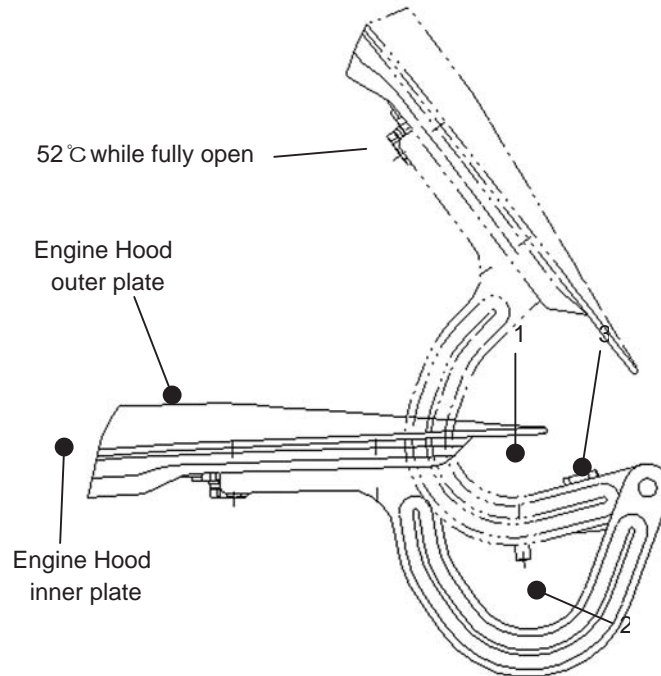

Figure 5-8 Engine Hood Hinge
1. Engine hood is mainly used to protect the engine, meet the whole vehicle design, and make the maintenance convenient. It also has an effect of isolating the engine noise. The engine hood has a double-insurance lock system. The release of the first lock is controlled by the drawing cable that is under the instrument panel. As to the release of the second lock, you should firstly release the first one and the hood will open, and then move the hood lock hook. The double-insurance lock system is designed for safety, especially in the course of running with a high-speed, to prevent the engine hood from being raised, which often causes traffic accidents. The angle of the hood that is fully opened is 52° . As shown in Figure 5-8